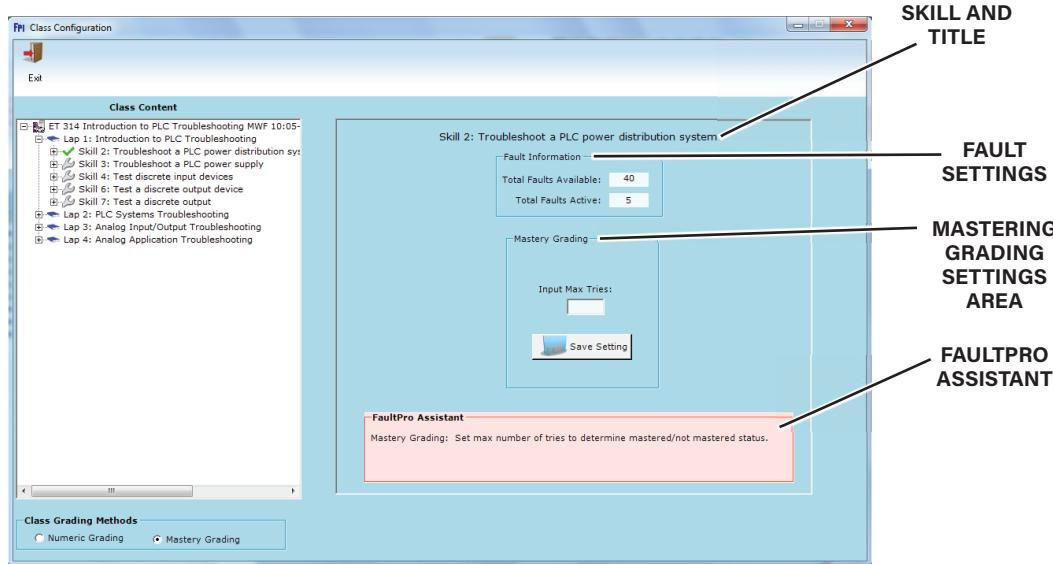

Figure 66. Grade Settings for Selected Skill
7. Click the **Grade Settings** button, shown in figure 66, to display the grade settings for the selected skill.